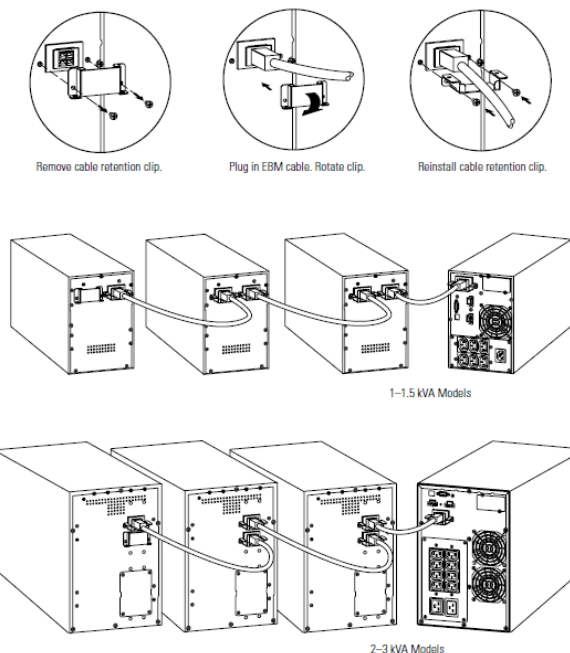

Figure 3: Connecting the battery modules
1. Remove the cable clamp on the rear side of the UPS system which covers the battery connection. Keep the clamp and screws (see Figure 3).
3. **Installing multiple battery modules:** For all battery modules, with the exception of the previously installed battery module, remove the cable clamps of both battery connections. For the last battery module, the second battery connection remains covered (see Figure 3).
4. Connect all plug connections between the battery modules and the UPS system (see Figure 3). Up to four batteries can be connected to the UPS system.
5. Mount all previously removed cable clamps rotated by 90° below the connector (see Figure 3).